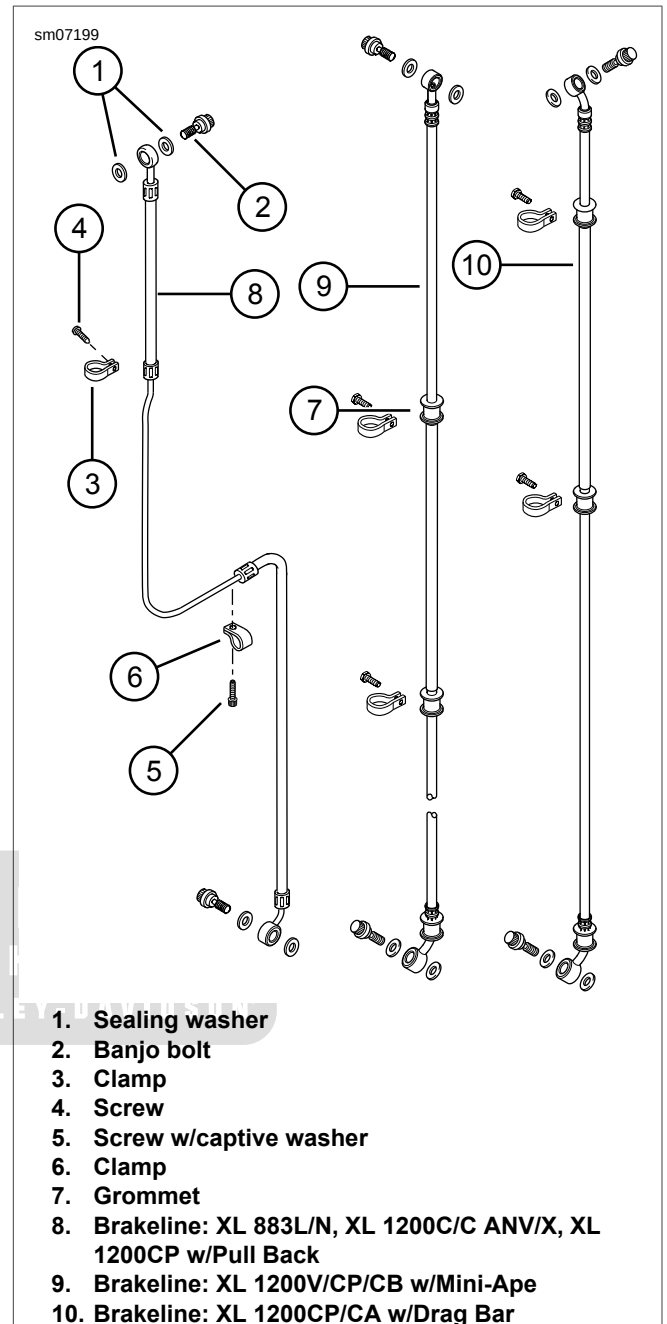
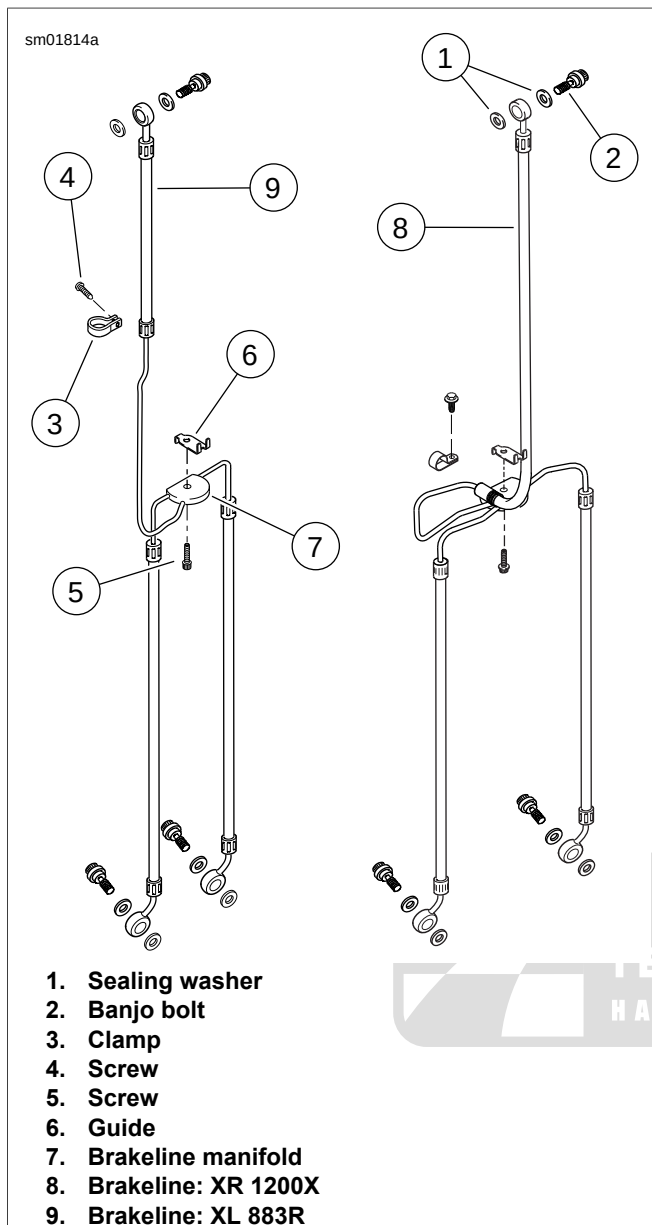

Figure 2-124. Brakelines: Single Disc Models
Figure 2-125. Brakelines: Dual Disc Models
- See Figure 2-124 or Figure 2-125. Loosely install the master cylinder banjo bolt (2) and fitting with **new** sealing washers (1).
- Loosely install the upper clamp (3) with the screw (4):
- Dual Disc Models:** See Figure 2-125. Thread the screw (5) with captive washer through the brake line manifold (7) and guide (6) into the steering head stem.